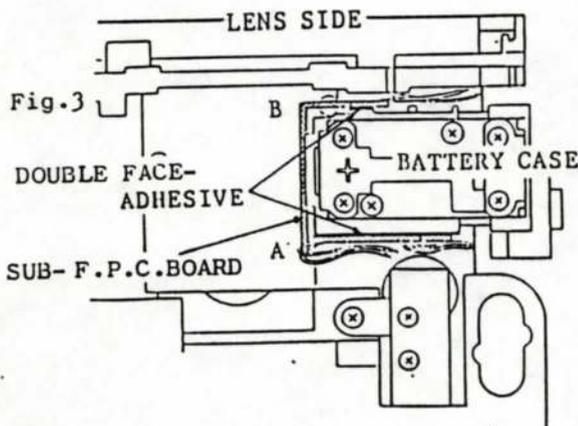

Fig. 3
- 4) Put a double face-adhesive tape on outside wall of battery case. (Fig. 3)